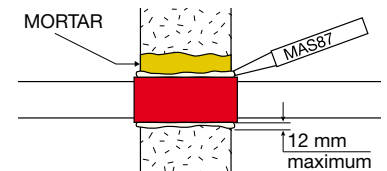

Figure 5
D. Gaps around FireBrake of up to 12mm should be made good with Domus MAS87 acoustic intumescent mastic to provide both a complete smoke seal and a reduction in sound transmission through the duct system (fig.5).